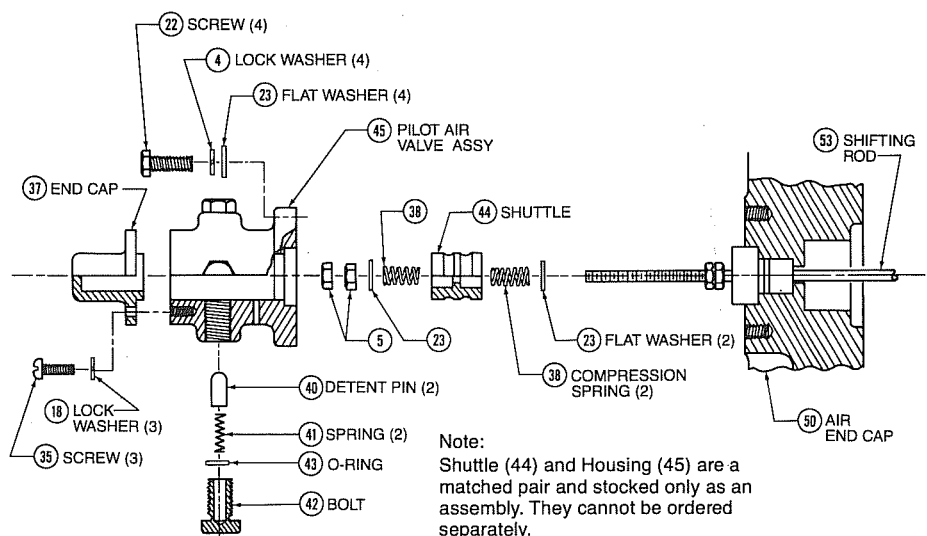

Figure 4-5. Pilot Air Valve assembly and other components.
- 69 LOCK WASHER (4)
- 70 SOCKET HEAD SCREW (4)
See Figure 4-5. Remove the end cap (37) by removing three screws (35) and lock washers (18). Disconnect the two air tube elbows (29). From the end of the shifting rod (53), remove the first pair of nuts (5), washer (23) and spring (38). Remove the housing (45) by unscrewing four screws (22), lock washers (4) and flat washers (23). Remove two bolts (42). From within the housing, remove the shuttle (44). Remove spring (38) and flat washer (23). Remove the two sets of bolts (42), o-rings (43), springs (41) and detent pins (2).
5.10 In the pilot air valve assembly, check for free movement between the shuttle (44) and the bore of the housing (45). Check contacting surfaces for dirt, scratches or galling. If surfaces are badly scratched or galled, replace the shuttle and housing. If worn, replace both detent pins (40) and springs (41) at the same time. See Fig. 4-5.